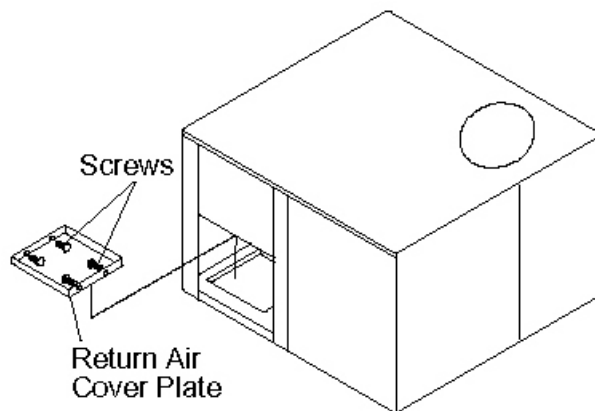

Figure 3: Removing Cover Plate
3. Use a 5/16" nut driver and remove the four screws securing the Return Air (RA) cover plate as shown in Figure 3. Remove the RA cover plate and discard.